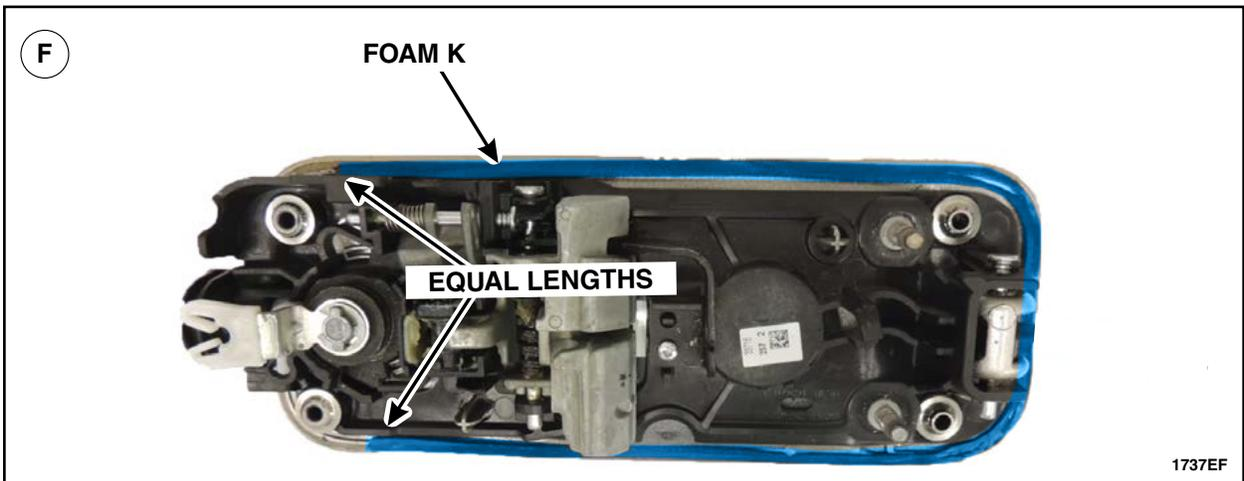

FIGURE 60
- F. Without stretching the foam adhere it to the exterior door handle ensuring that both sides of Foam K are of equal length once secured. See Figure 60.